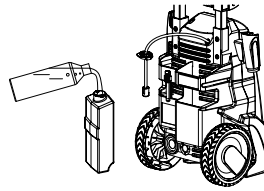

Figure 15
3. Take the cap off of the cleaner container **10** on the back of the 2.2 kW high pressure washer **6** and pull the hose out (see **fig. 15**).